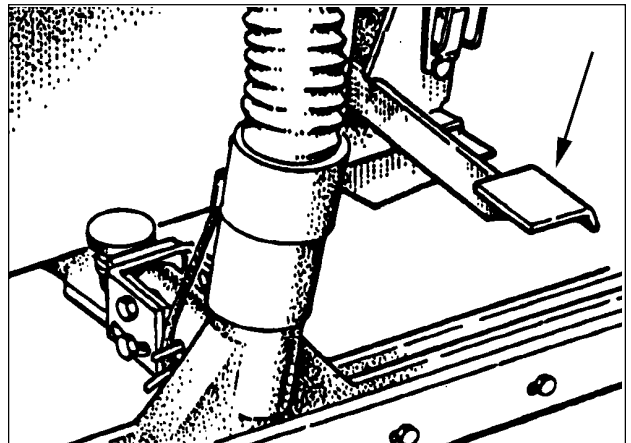

Figure 22
3. Lower the brush. To lower the brush, step on the brush control lever (figure 22) and push down slightly, then move the lever to the left and allow it to come up.